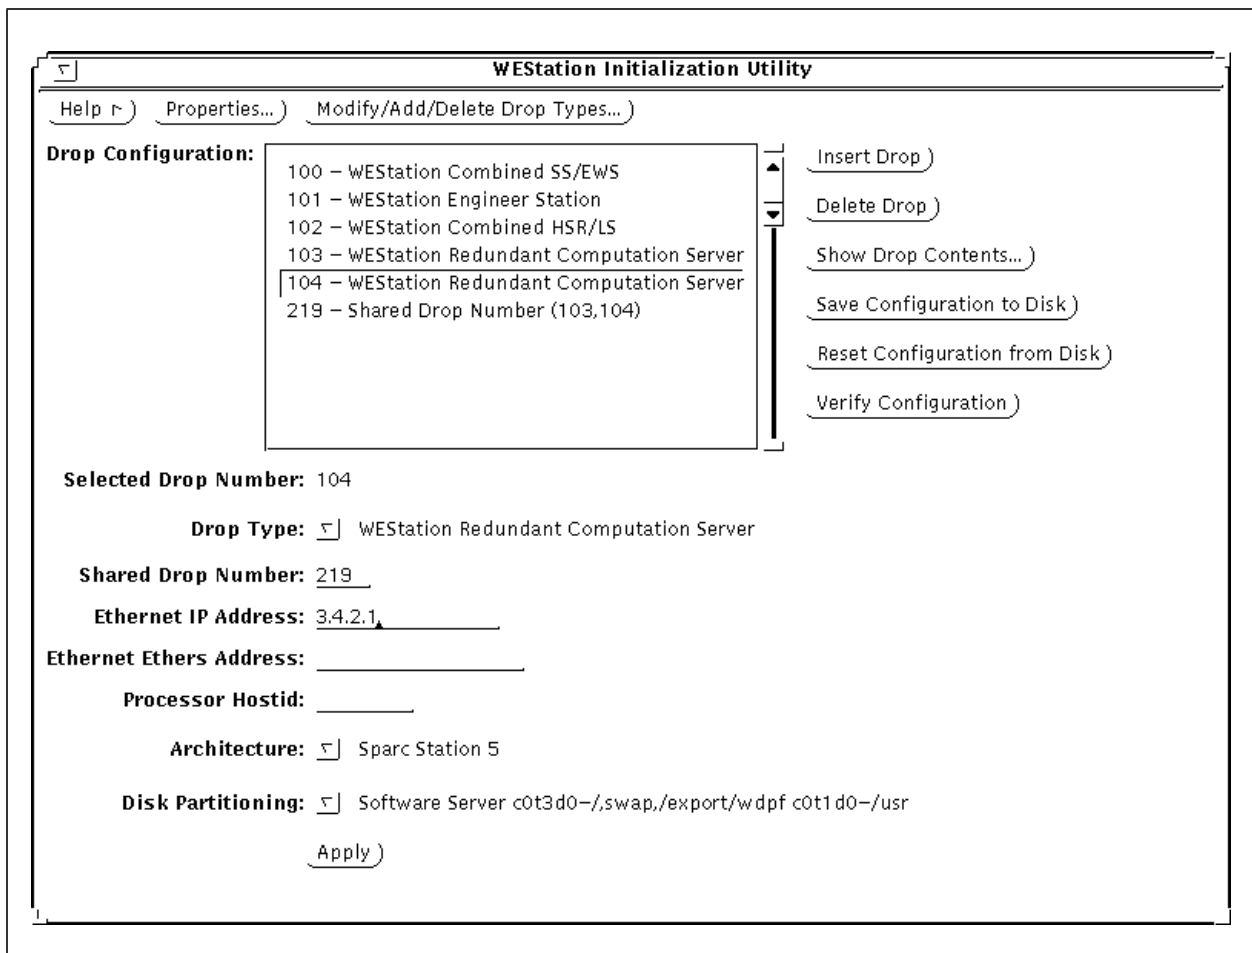

Figure 3-1. WEStation Initialization Utility Window
2. Figure 3-1 provides an example of the WEStation Initialization Utility main window that will display on the screen.